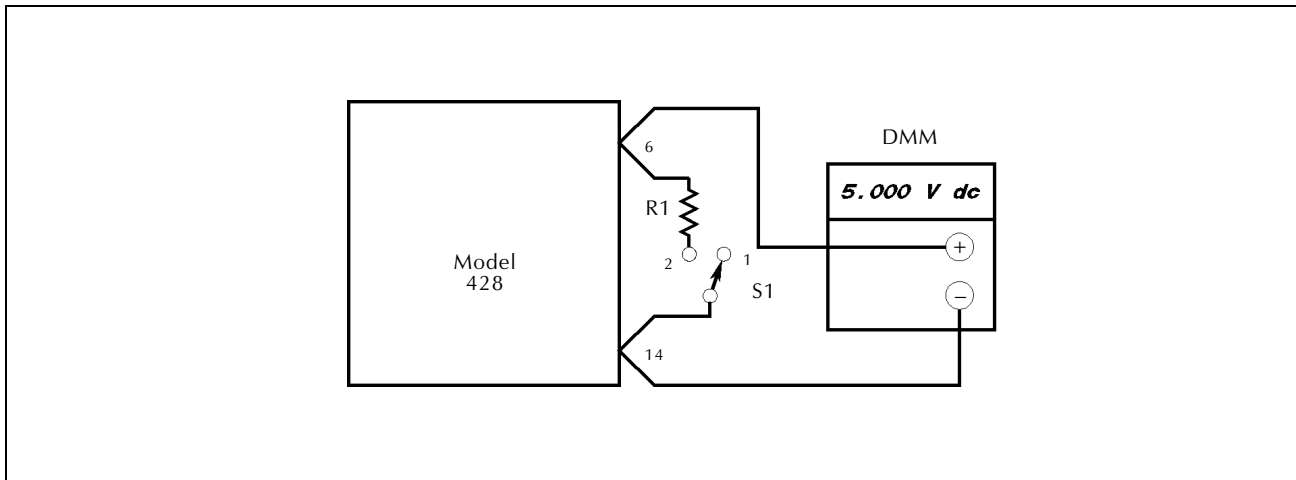

Figure 5-13
1. Connect the Model 428 as is shown in Figure 5-13 and set the DMM for dc volts.
1. Connect the Model 428 as is shown in Figure 5-13, Install an appropriate resistor (see Table 5-1) for R1. The resistor should be connected as close to the connector pins as is possible to avoid IR losses in the measurement.
1. Connect the amplifier to be tested as shown in Figure 5-13.